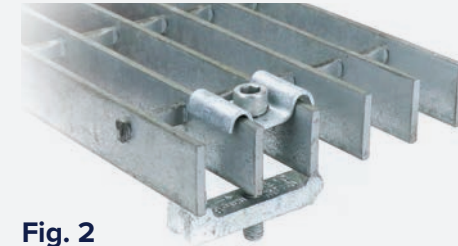

Fig. 2
1. Insert the GrateFix through the grating bars (Fig. 2).